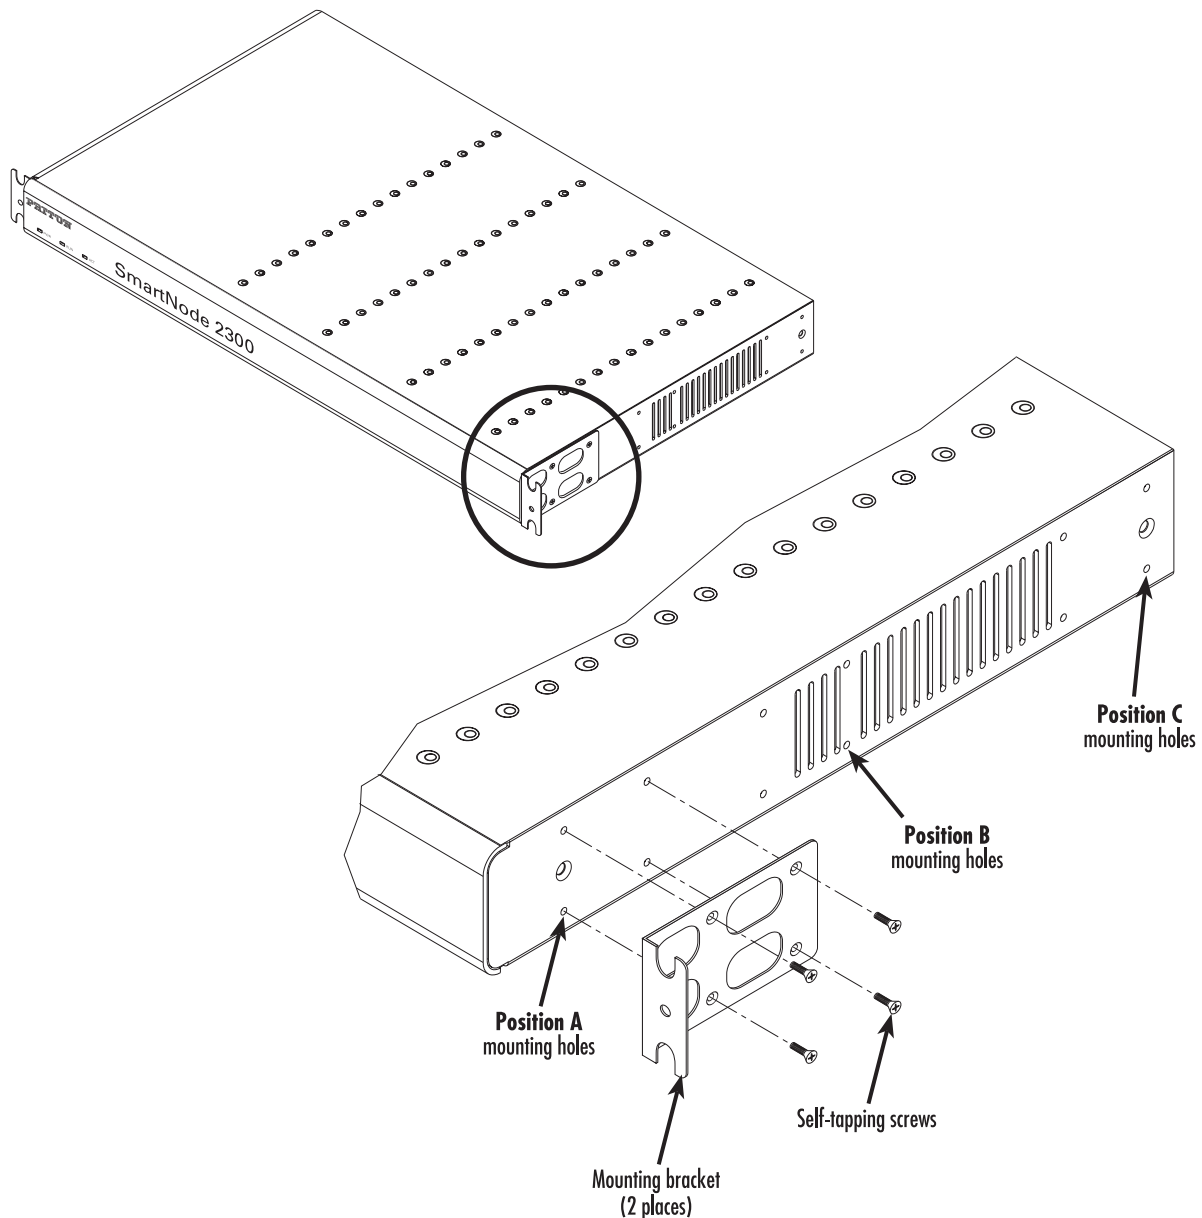

Figure 54. SmartNode 2300 rack mounting bracket location holes
1. Locate the two angled mounting brackets included in the installation kit pack. The bracket (see figure 54) is designed so you can have the 1.5 cm flange facing to the front or to the rear. There are four holes for countersunk screws on the long side of the bracket.
2. Attach a bracket to each side of the SmartNode 2300 with the four self-tapping screws provided. There are three mounting positions for the brackets (positions A, B, and C as shown in figure 54 on page 89), so choose the one that best suits your requirements.